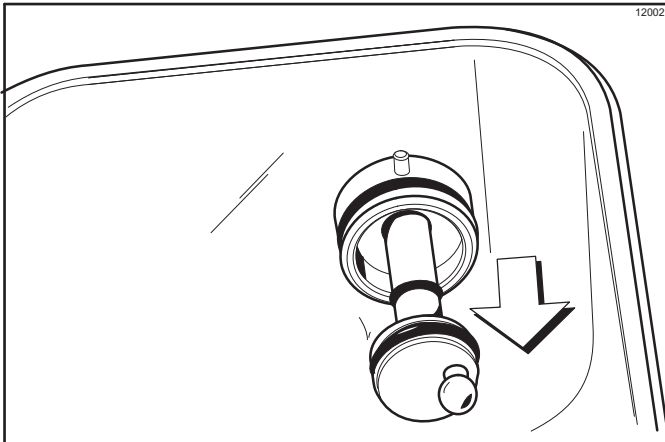

Figure 6-41
5. Remove the pump driveshafts from the drive hubs in the rear wall of the mix hoppers. (See Figure 6-41.)